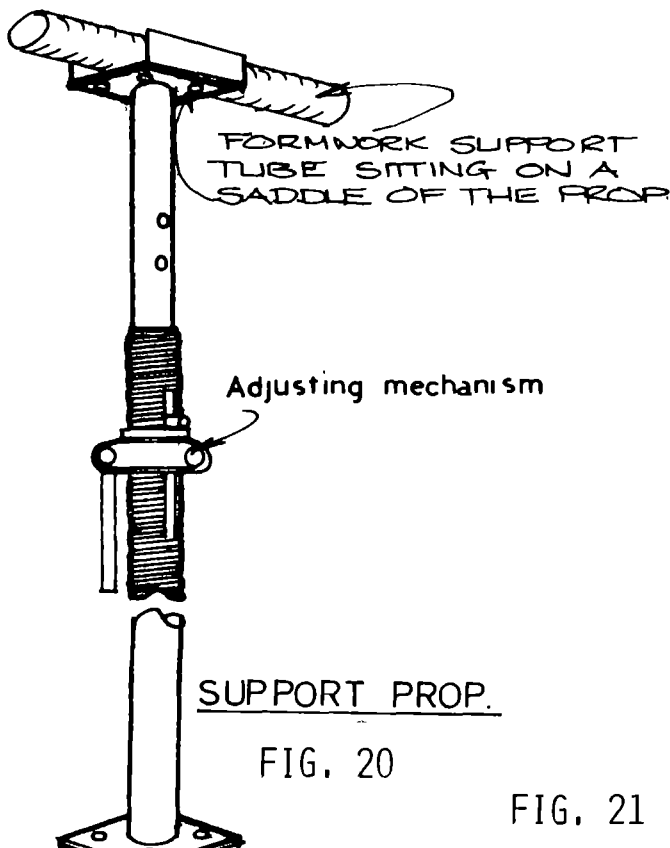

FIG. 20
- * Eight (8) radiused (2540 mm) scaffold tubes (outside formwork).
- * Four (4) radiused (2210 mm) scaffold tubes (inside formwork).
- * Seven (7) sheets of plywood 2442 x 1220 mm, marine class, 20 mm. thick. (includes on extra).
- * Four (4) radiused tubes (2 x 0.50 m. and 2 x 1.4 m. radiused).
- * Eight (8) adjusted props (see Figure 20).